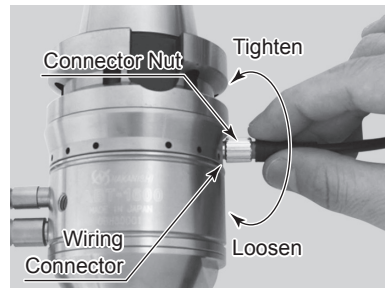

Fig. 17
- (3) Tighten the Connector Nut in a clockwise direction (Fig. 17).